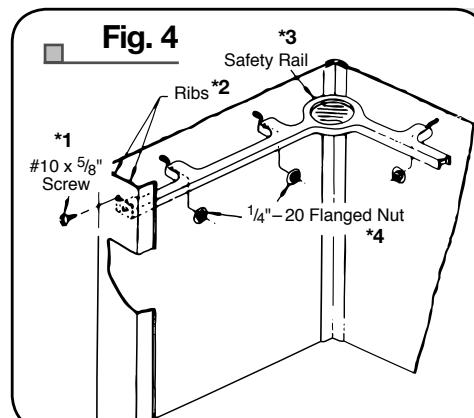

Fig. 4
4. Position Safety Rail inside cabinet so that each end is located between the two ribs on the inside of the front support extrusions. Use a #10 x $\frac{5}{8}$ " Truss Head Screw to secure both ends of the Safety Rail through the pre-punched holes in the front supports. Position side and rear mounting pods of Safety Rail onto previously installed mounted screws. Place a $\frac{1}{4}$ " - 20 Flanged Nut on each mounting screw and tighten securely using a $\frac{7}{16}$ " wrench. (**Fig. 4**)